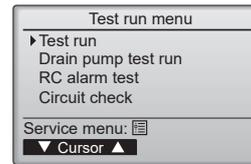

Fig. 7-4
- (4) Select "Test run" with the or button, and press the button. (Fig. 7-4)